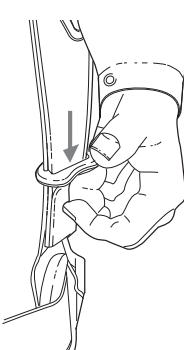

Fig. 19 Securing the strap ends
9. Pull the strap retainers down to secure the strap ends (Fig. 19).